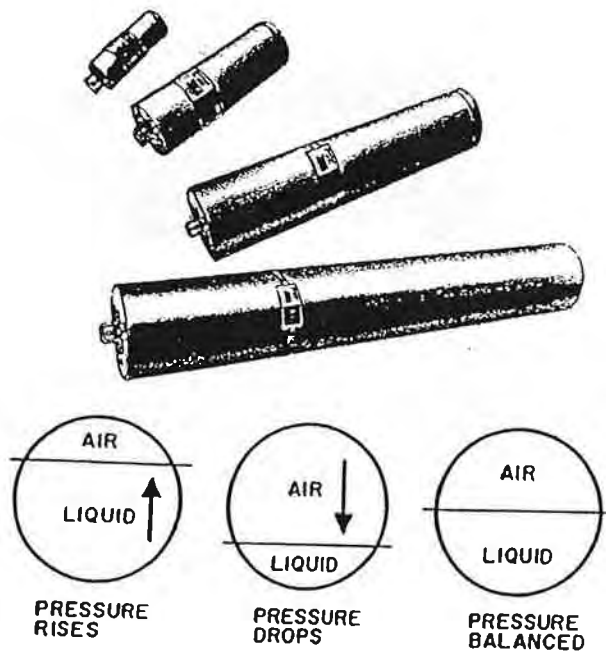

Fig. 10-12. Accumulators.
10.27 As shown in Fig. 10-12, an accumulator is a dome-shaped or cylindrical chamber or tank attached to a hydraulic line. Fluid rises inside the accumulator, compressing the air in it, until the pressure of the air and of the hydraulic fluid is balanced. If line pressure drops, the compressed air in the accumulator expands to push fluid into the line, thus restoring pressure. If line pressure rises, fluid flows into the accumulator, compressing the air again and relieving the strain on the system. Accumulators only supply fluid during peaks.